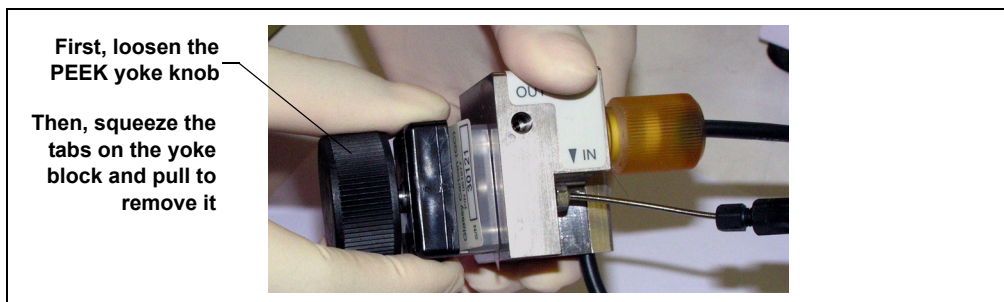

Figure 9-33. Disassembling the Amperometry Cell
5. Squeeze the tabs on the sides of the yoke block and pull the block and knob off the working electrode (see Figure 9-33).